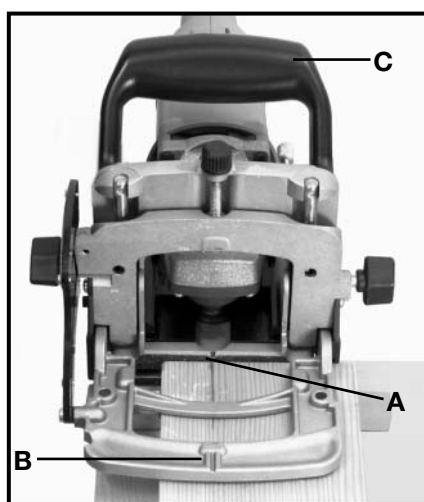

Fig. 20
6. Position tool to work-piece with bottom of fence resting on workpiece. Align guide notch (A) or (B) Fig. 20, with a groove centerline. Apply pressure to auxiliary handle (C) Fig. 20, to keep front of tool and fence in firm contact with workpiece.